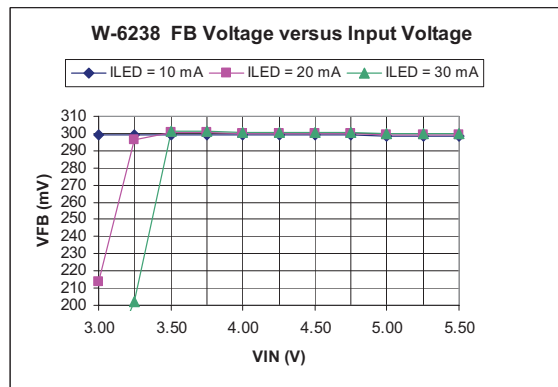

Figure 5. V_{FB} voltage Line Regulation
- Observe the value of I_{LED} measured by the current meter and V_{FB} using a voltmeter. Figure 4 presents the I_{LED} current versus V_{IN} . Figure 5 shows the W-6238 FB voltage versus input voltage.